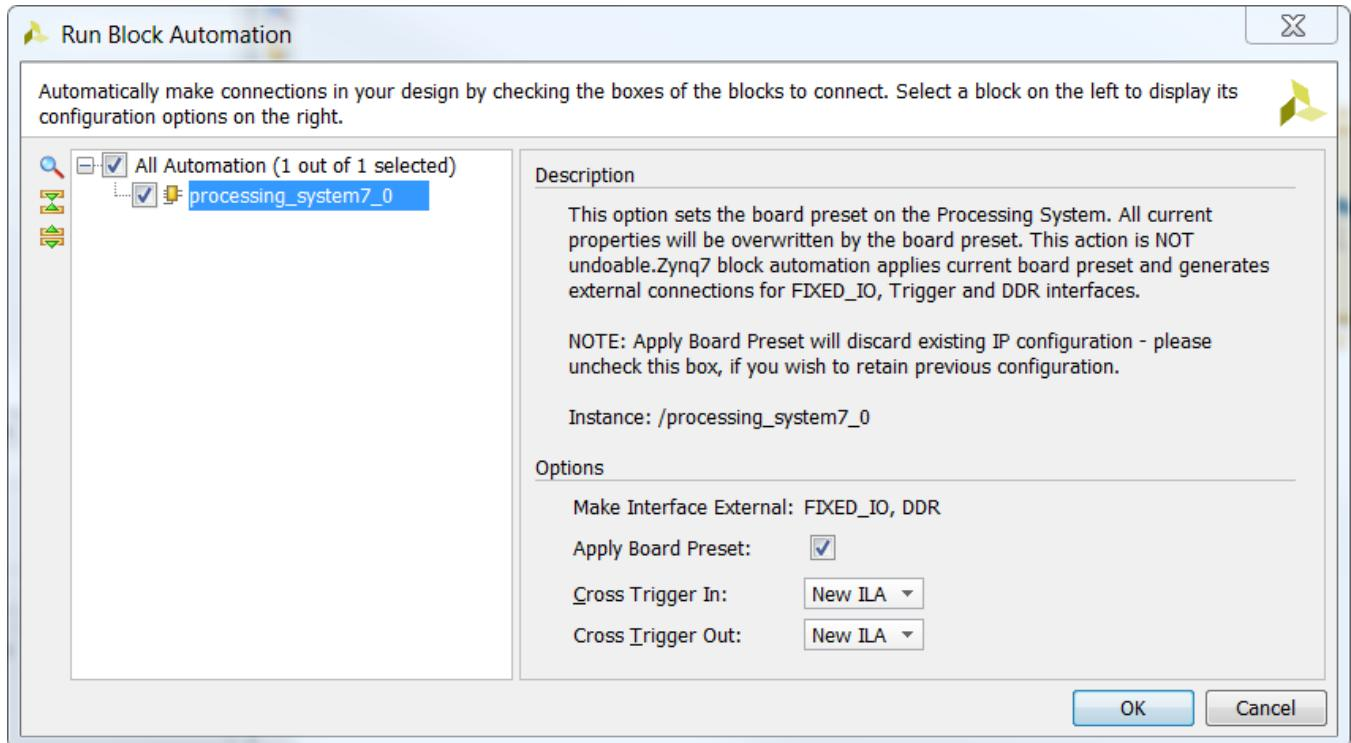

Figure 54: Run Block Automation Dialog Box
8. Enable the Cross Trigger In and Cross Trigger Out functionality by setting those fields to **New ILA**, then click **OK**, as shown in Figure 54.